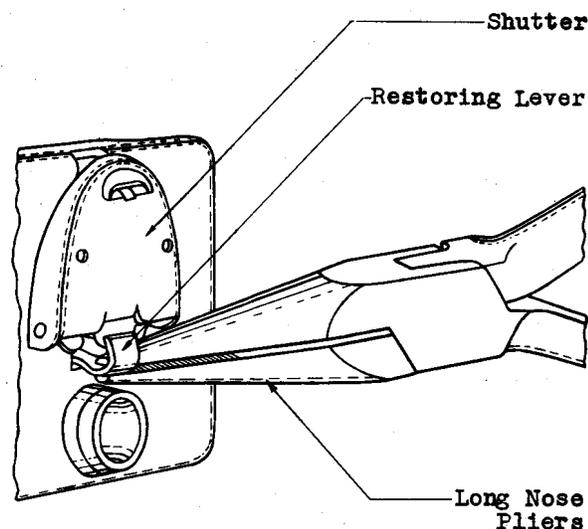

Fig. 5 - Method of Adjusting Rounded Portion of the Restoring Lever
(1) If the restoring lever binds on its bearing pin, it is probably due to dirt collecting in the bearings. To clean the bearings, proceed as outlined in procedure 3.01.
(2) If the restoring lever does not restore the shutter when a 47 type plug is inserted in the associated jack, it may be due to the stud of the jack spring being loose or missing, or to the adjustment of the tip of the restoring lever.
(3) If the stud of the jack spring is missing, refer the matter to the supervisor.
(4) If the tip of the restoring lever does not strike the shutter satisfactorily, grasp the rounded portion of the lever with the long-nose pliers at a point immediately in front of the mounting plate as shown in Fig. 5 and adjust the lever toward or away from the mounting plate as required. The form of the tip of the restoring lever should be about the same as those of the adjacent combined jacks and signals. After making this adjustment see that the lever strikes the shutter tail approximately flat.